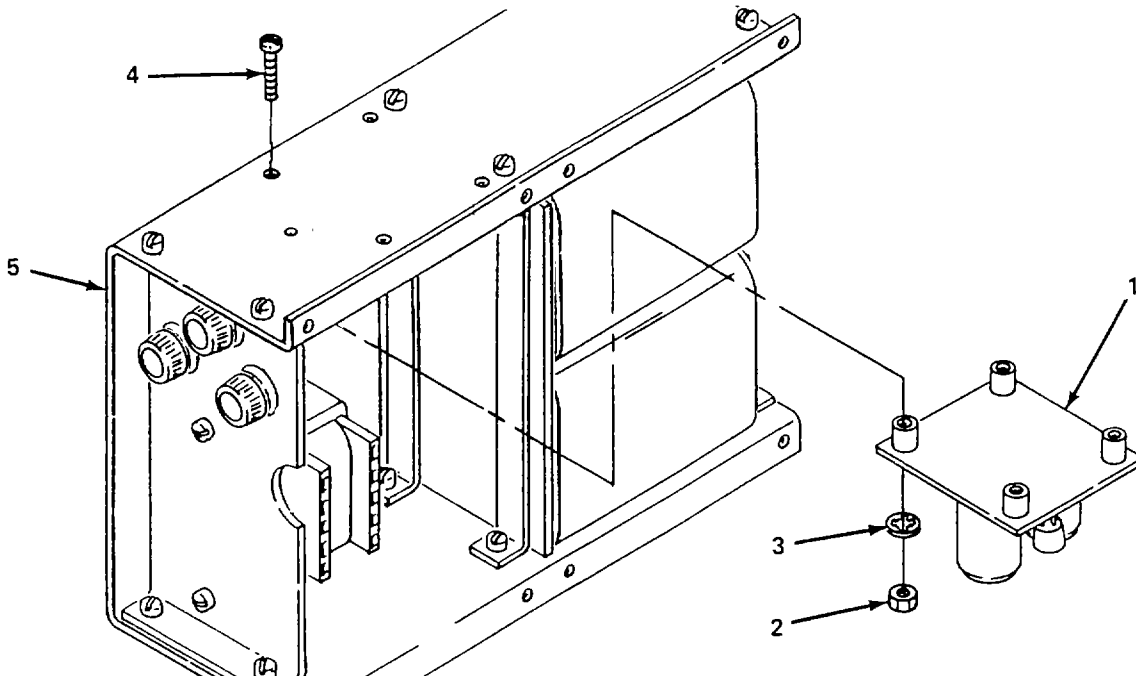

Figure 5-46. Battery Card and Case Battery Charger P. C. Card Assembly, Replace.
- (5) *Replace battery charger P.C. card assembly. (figure 5-46)*
- (b) Tag and disconnect wires from charger P.C. card assembly (1).
- (c) Remove four nuts (2), lockwashers (3), and screws (4) and remove battery charger P.C. card assembly (1).
- (d) Install battery charger P.C. card assembly (1) on housing (5) and secure with four screws (4), lockwashers (3) and nuts (2).